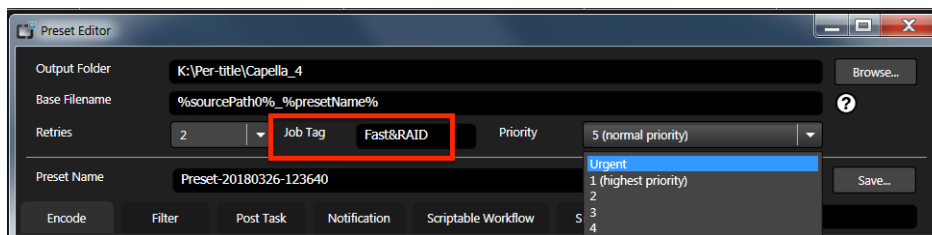

Figure 10. Adding job tags and setting encoding priority in the preset editor.
- To add tags, simply type them into the Job Tag field highlighted in Figure 10, along with any modifiers.